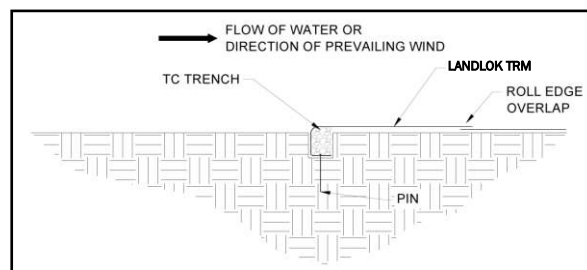

Figure 20: Terminal Channel (TC) Trench Complete
14. Fold the LANDLOK panel over the top of the compacted TC trench (Figure 20) ensuring a minimum 3 inch (75 mm) overlap and place each panel end into the respective COS trenches.